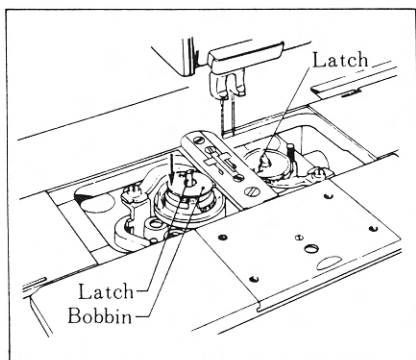

Figure 4a
4. Loading Bobbins (Figures 4a and 4b)
Place the bobbin into the rotary hook as shown in Figure 4a. Close the latch of the rotary hook so that the bobbin turns to the left. Pass the thread under the tension spring. Pass the thread through the clearance between the rotary hook and the bobbin case opener. Manually turn the machine drive pulley to lower needles and bring bobbin thread through throat plate.